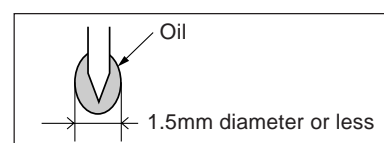
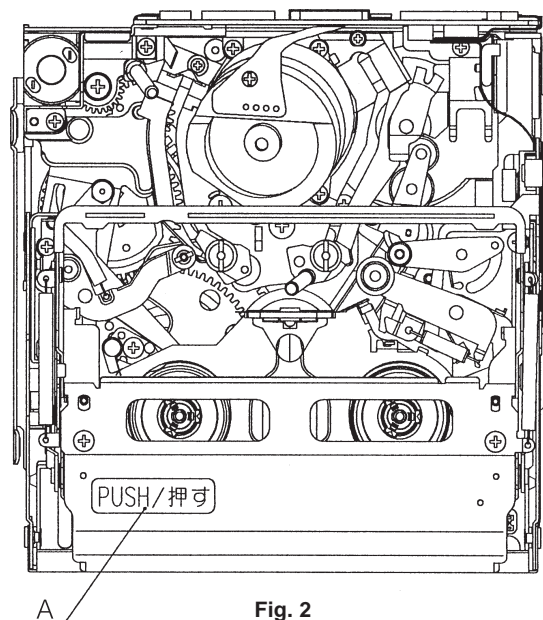

Fig. 1
Fig. 2
- (1) When replacing any part, always replace the cut washer that was removed with a new one.
- (2) This mechanism does not have control adjustment. If the control cannot be set as required, clean and or replace parts.
- (3) On the oil
- c) One drop of oil is the amount shown in the Fig. 1, on the point of a pin.
- (4) Perform circuit repair, tape running adjustment, etc. with the cassette controller assembly attached to the mechanism.
- (5) When operating the mechanism separately, apply voltage to the loading motor. However, the terminal voltage must be DC3V~4V. (When the mechanism is connected to the main PWB, do not apply external voltage to the loading motor. It may cause a trouble.) (Forcing the gears to turn by hand entails danger of breakage.) If the mechanism is separated from the unit, the capstan motor may rub and be damaged if spacing under the mechanism is inadequate.
- (6) To install the cassette controller, push section A in the Fig. 2. Do not push anything else.
- (7) Do not deform any of the mechanical parts.